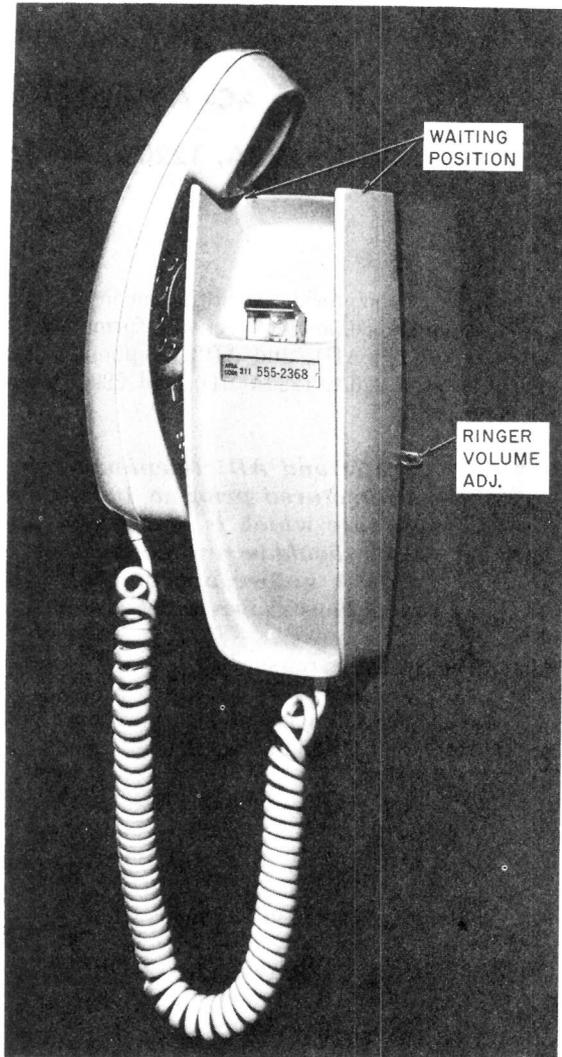

Fig. 3—Hand Telephone Set in Waiting Position on AC-Type Telephone Base
2.02 The AC-type telephone base is for wall mounted installations and the AD-type telephone base for desk installations (Fig. 3 and 4).
- AC-type telephone base provides waiting position for handset without going to on-hook position (Fig. 3).